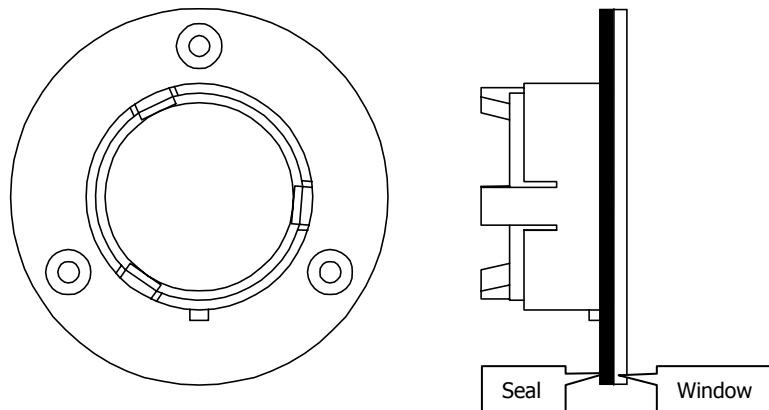

Figure 38 Seal fitted to window
2. Ensure the seal is fitted to the window and is correctly seated (Figure 38).